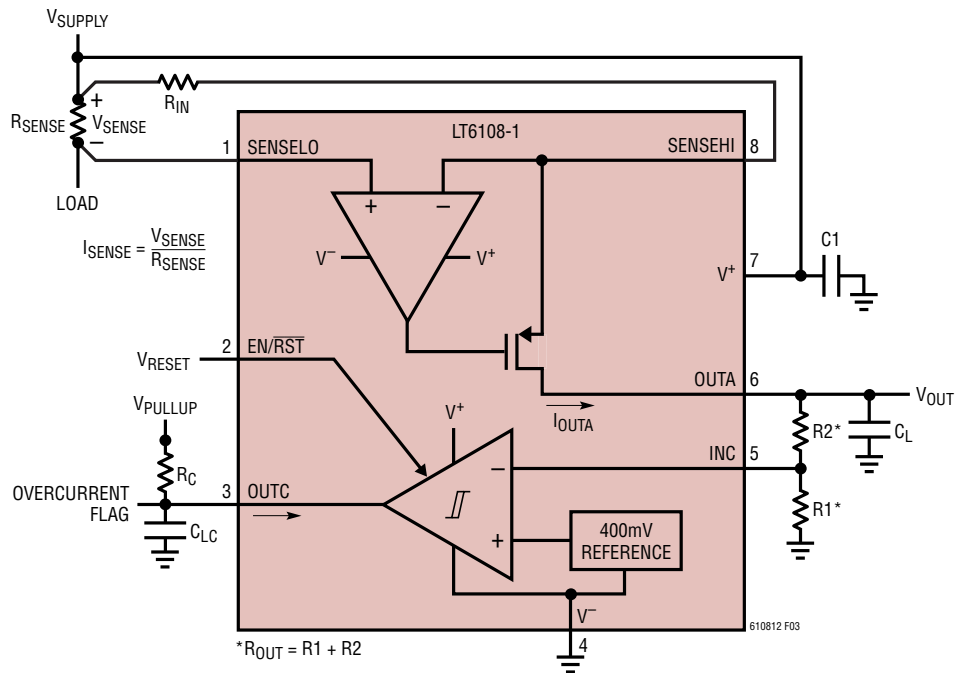

Figure 3. LT6108-1 Typical Connection
**TYPICAL PERFORMANCE CHARACTERISTICS** Performance characteristics taken at  $T_A = 25^\circ\text{C}$ ,  $V^+ = 12\text{V}$ ,  $V_{\text{PULLUP}} = V^+$ ,  $V_{\text{EN}} = V_{\text{EN/RST}} = 2.7\text{V}$ ,  $R_{\text{IN}} = 100\Omega$ ,  $R_{\text{OUT}} = R_1 + R_2 = 10\text{k}$ , gain = 100,  $R_C = 25.5\text{k}$ ,  $C_L = C_{LC} = 2\text{pF}$ , unless otherwise noted. (See Figure 3)
Performance characteristics taken at  $T_A = 25^\circ\text{C}$ ,  $V^+ = 12\text{V}$ ,  $V_{\text{PULLUP}} = V^+$ ,  $V_{\text{EN}} = V_{\text{EN/RST}} = 2.7\text{V}$ ,  $R_{\text{IN}} = 100\Omega$ ,  $R_{\text{OUT}} = R_1 + R_2 = 10\text{k}$ , gain = 100,  $R_C = 25.5\text{k}$ ,  $C_L = C_{LC} = 2\text{pF}$ , unless otherwise noted. (See Figure 3)
An internal sense amplifier loop forces SENSEHI to have the same potential as SENSELO as shown in Figure 3. Connecting an external resistor,  $R_{IN}$ , between SENSEHI and  $V_{SUPPLY}$  forces a potential,  $V_{SENSE}$ , across  $R_{IN}$ . A corresponding current,  $I_{OUTA}$ , equal to  $V_{SENSE}/R_{IN}$ , will flow through  $R_{IN}$ . The high impedance inputs of the sense amplifier do not load this current, so it will flow through an internal MOSFET to the output pin, OUTA.
where  $R_{OUT} = R_1 + R_2$  as shown in Figure 3.
Kelvin connection of the SENSEHI and SENSELO inputs to the sense resistor should be used in all but the lowest power applications. Solder connections and PC board interconnections that carry high currents can cause significant error in measurement due to their relatively large resistances. One 10mm  $\times$  10mm square trace of 1oz copper is approximately 0.5m $\Omega$ . A 1mV error can be caused by as little as 2A flowing through this small interconnect. This will cause a 1% error for a full-scale  $V_{SENSE}$  of 100mV. A 10A load current in the same interconnect will cause a 5% error for the same 100mV signal. By isolating the sense traces from the high current paths, this error can be reduced by orders of magnitude. A sense resistor with integrated Kelvin sense terminals will give the best results. Figure 3 illustrates the recommended method for connecting the SENSEHI and SENSELO pins to the sense resistor.